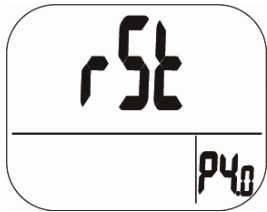

Fig. 17: Reset-mode
- Press LOG/▲ three times to enter P4.0 mode for reverting the meter to default status, see Fig. 17.